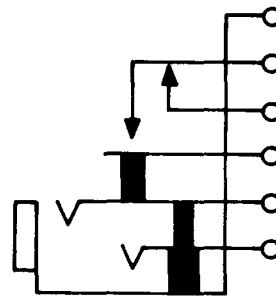

Fig. 14—387-Type Jack
**2.14 387A, C, and D:** These single mounted jacks (Fig. 14) are used with the 310 or similar-type plugs. These jacks are heavily insulated and are intended to be mounted with the springs in a vertical plane.